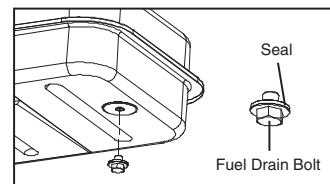

**Figure 10. Fuel Drain Bolt**
(For KFA135DGDR/180DGDR/220DGDR Models Only. See Figure 10)
5. Reinstall fuel drain bolt to Fuel tank and tighten firmly using 3/4” socket or adjustable wrench.(For KFA135DGDR/180DGDR/220DGDR Models Only. See Figure 10)